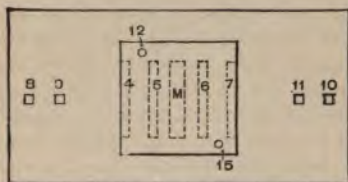

FIG. 36.—CARRICABURU STEAM VALVE AND SEAT.
A. The ports 12 and 15 (Fig. 36) are provided, passing down into the steam cylinder, and holes are drilled through the valve so that when the latter is in the position mentioned, these holes correspond with the ports 12 and 15, as shown in the top view of the valve and seat, and let steam into the cylinder. The steam will then act through the port 8 or 10 upon whichever valve-moving piston is to be moved further to complete the movement of the valve. The openings in the valve